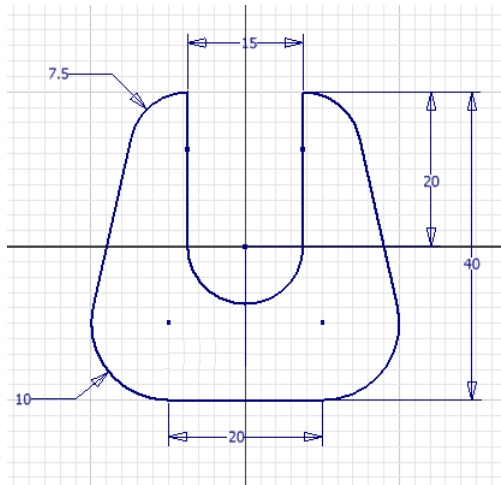

Figure 3-61 Dimensioned sketch for Tutorial 3
- b. Invoke the Sketching environment and add the required dimensions and constraints to the outer loop, refer to Figure 3-61.
With this, all dimensions have been applied to the sketch (see Figure 3-61), except the horizontal dimension between the center points of arcs 4 and 6 or arcs 8 and 6. The need of these dimensions depends on the constraints and dimensions assumed while drawing the sketch. If the sketch gets over-constrained, the **Autodesk Inventor Professional** message box is displayed. Choose **Cancel** from the message box. In this case, the dimension has already been assumed.